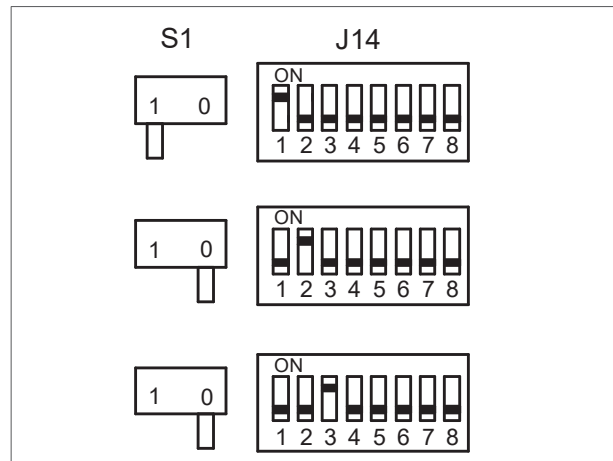

Figure 14 - Positions of the S1 and J14 switches for the first three air heaters in a system
1. Set the S1 and J14 switches on the control unit as follows (figure 14):